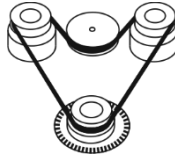

Fig. 7. Rubber belt replacement
- Replace the rubber belt (Fig. 7).